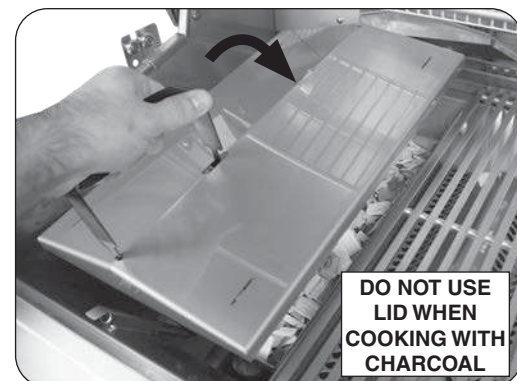

Fig. 36-5 Install lid for smoking
2. Using the grid/lid lifter, install the smoker lid (see Fig. 36-5).